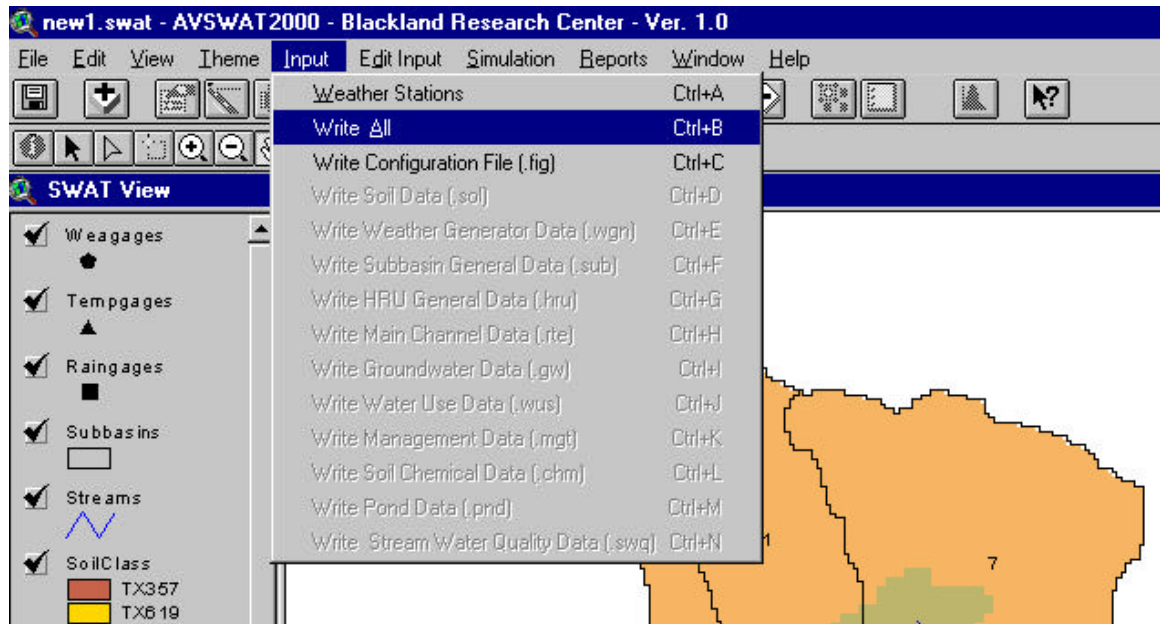

Figure 8.2
1. Select the **Write All** item from the **Input** menu on the *SWAT View* (or press Ctrl+B) (Figure 8.2).